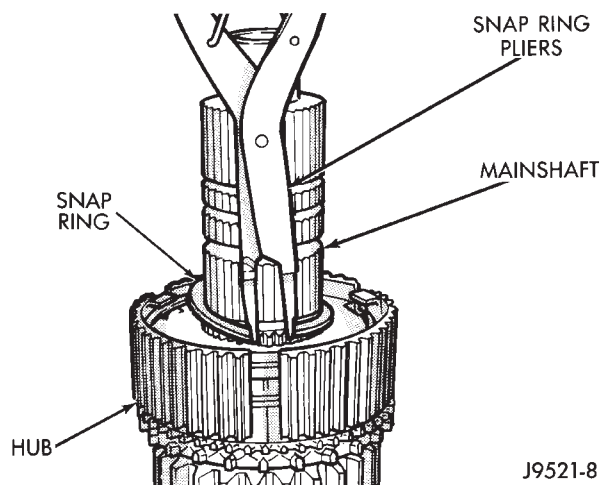

Fig. 59 Installing Hub Retaining Snap Ring
(6) Install new hub retaining snap ring (Fig. 59).